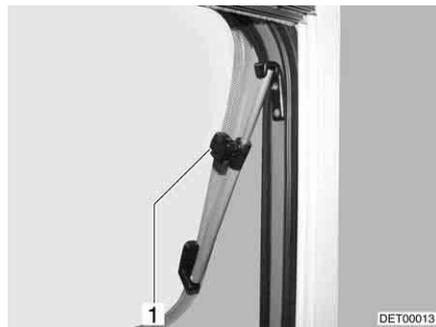

Fig. 90 Hinged window with rotary hinges
- Open the hinged window until the required position has been reached and use knurled knob (Fig. 90,1) to secure in position.
- Turn knurled knob (Fig. 90,1) until the latch is released.